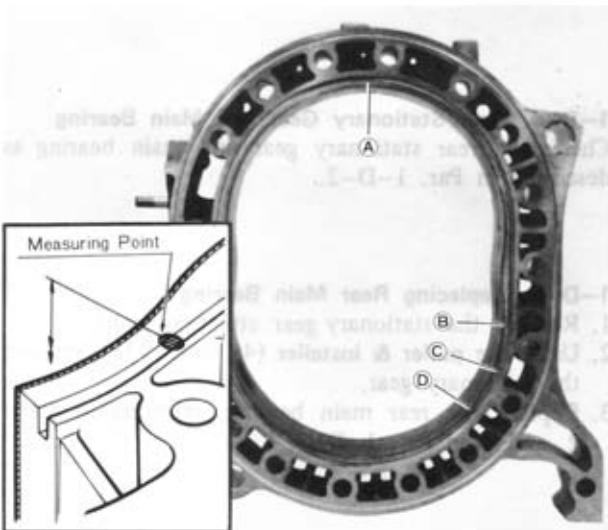

Fig. 1-58
3. Check the clearance between the side housing and rotor by measuring the rotor housing width **A** (see Fig. 1-58 ) and the maximum rotor width. The rotor width should be measured at **three points**.
To check, measure the spex seal length with a micrometer. Compare the measured apex seal length with the rotor housing width  $\text{\textcircled{A}}$  (see Fig. 1-58).